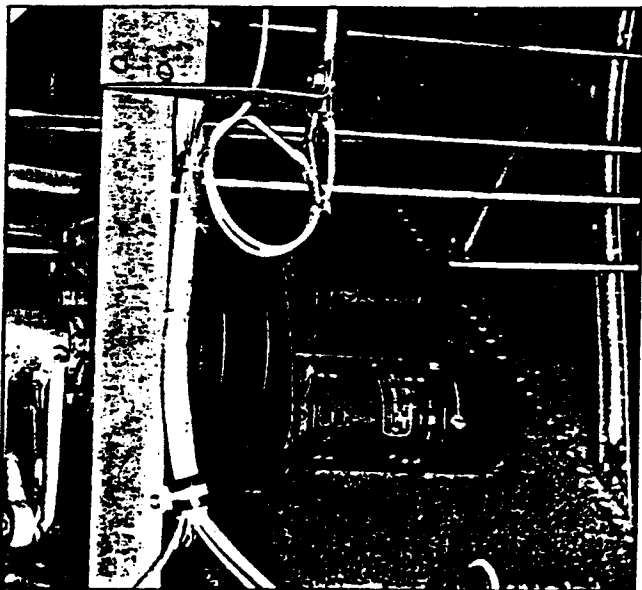
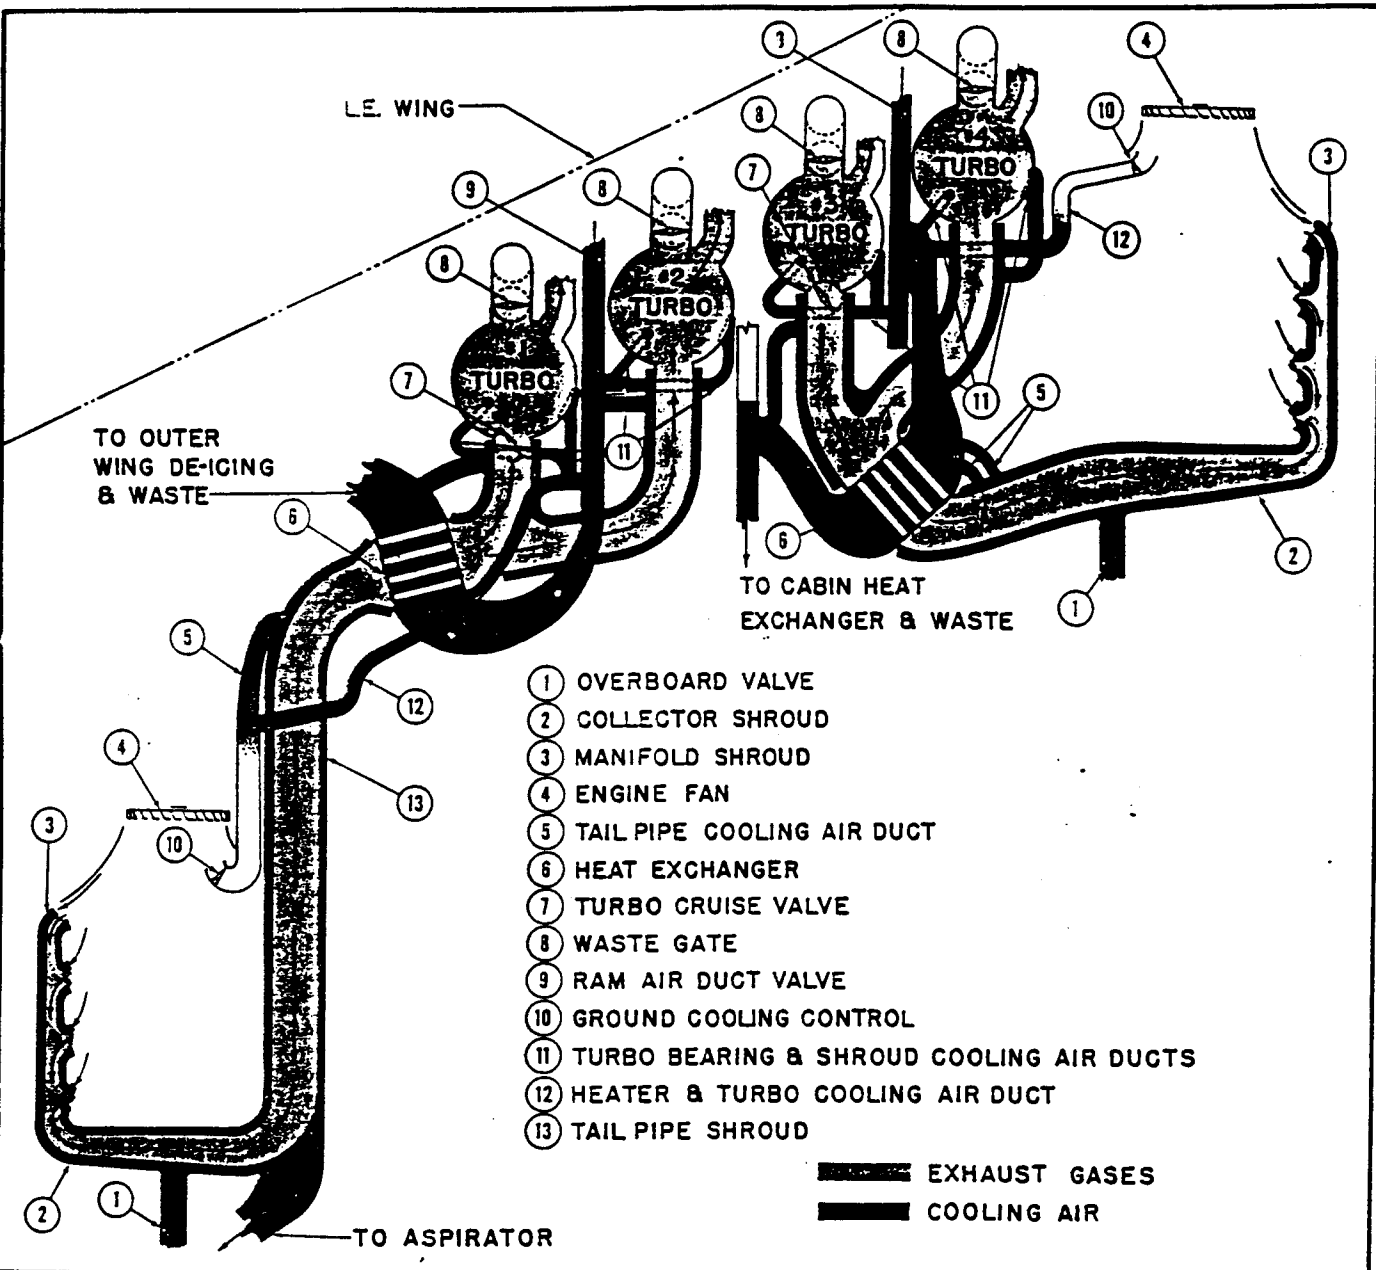

Figure 5. Engine Air Exit Flap Motor - Inboard
Figure 1. Exhaust and Cooling System
(5) ENGINE FAN.- Remove 12 bolts which secure fan to fan drive shaft.
(6) GROUND COOLING VALVE.- Disconnect the electrical cable. Remove complete assembly by means of Dzus fasteners.
(7) ENGINE FAN COOLING SHROUD.- Remove panels by means of Dzus fasteners. This will allow access to the various engine accessories.
(8) FAN SPEED CONTROL. (See figures 1 and 2.)- Remove four bolts which secure engine fan speed control to bracket. Disconnect electrical plug. Remove nut which secures actuating arm to engine case.
(9) AIR EXIT FLAPS.- Flap removal is described in Section IV, paragraph 1.
(10) AIR EXIT FLAP ACTUATOR MECHANISMS. (See figures 5 and 7.)- Although the actuator mechanisms are located differently in respect to the flap assemblies which they control, the removal procedure is essentially the same. Remove entire motor assembly from bracket, tube assembly or bellcrank, by means of bolts. Disconnect electrical cable. If it is necessary to remove push rods leading to flap assembly, make certain that the adjustment is not changed.
(11) FLAP POSITION TRANSMITTERS.- Although the inboard and outboard transmitters are located differently in respect to their corresponding flap assembly, they are removed in essentially the same manner. Remove bolts which secure transmitter to bracket. Disconnect transmitter arm, then remove complete transmitter assembly.
a. ENGINE EXHAUST SYSTEM. (See figures 1 and 2.)
(1) GENERAL.- The engine exhaust system, in addition to conveying exhaust gas from the engine, is utilized to provide motive power for the turbosuperchargers, heat for outer wing anti-icing (outboard engines), and cabin warmth (inboard engines). Refer to paragraph 14 c and d. The exhaust gas from the 28 cylinders of each engine is routed through a heat exchanger and then is diverted into two turbosuperchargers, eventually escaping through the applicable normal exhaust outlet (flight hood), or wastepipe. (See figures 1 and 2.) However, under certain conditions determined by the flight engineer, the exhaust gas may be directed through only one of the two turbosuperchargers. Refer to paragraph 14 b, and also to figures 1 and 2. The heat exchangers function primarily to decrease the temperature of the exhaust gas flowing into the turbosupercharger. Cool ram air, after passing through and collecting heat from a heat exchanger, normally discharges into the slipstream through an overboard wastegate assembly; but, if desired, may be diverted for use in outer wing anti-icing or cabin heating. Refer to paragraphs 14 c and d.
(2) TROUBLE SHOOTING.- Refer to paragraph 14 b.
(6) TURBOSUPERCHARGER WASTEGATE. (See figures 1 and 2.)- The wastepipe functions as an alternate or additional outlet for the release of engine exhaust gas into the slipstream, as is necessary to regulate turbosupercharger operation. Refer to paragraph 14 b. The position of an electrically controlled butterfly valve or gate within this pipe determines the route of the exhaust gas. When the gate is completely closed, most of the gas will escape through the normal exhaust (flight hood); and when the valve is completely open the opposite condition will exist. Refer to paragraph 14 b and to figures 3 and 15. Since both the normal exhaust (flight hood) and the wastepipe are integral parts of the turbosupercharger, maintenance information pertaining to these components is also contained in paragraph 14 b.